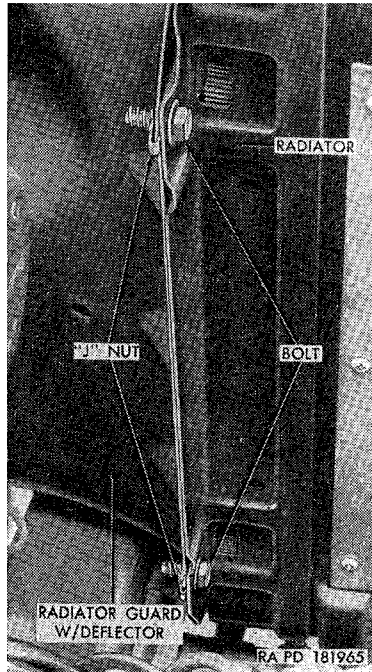

Figure 183. Radiator-to-guard panel "J" nuts—installed.
- (4) Remove the two bolts from the two radiator-to-guard panel "J" nuts (fig. 183) securing each side of the radiator guard to the radiator assembly.
- (4) Secure the radiator guard to the radiator by screwing two  $\frac{5}{16} \times \frac{5}{8}$  bolts into the two radiator-to-guard panel "J" nuts on each side of the guard (fig. 183).